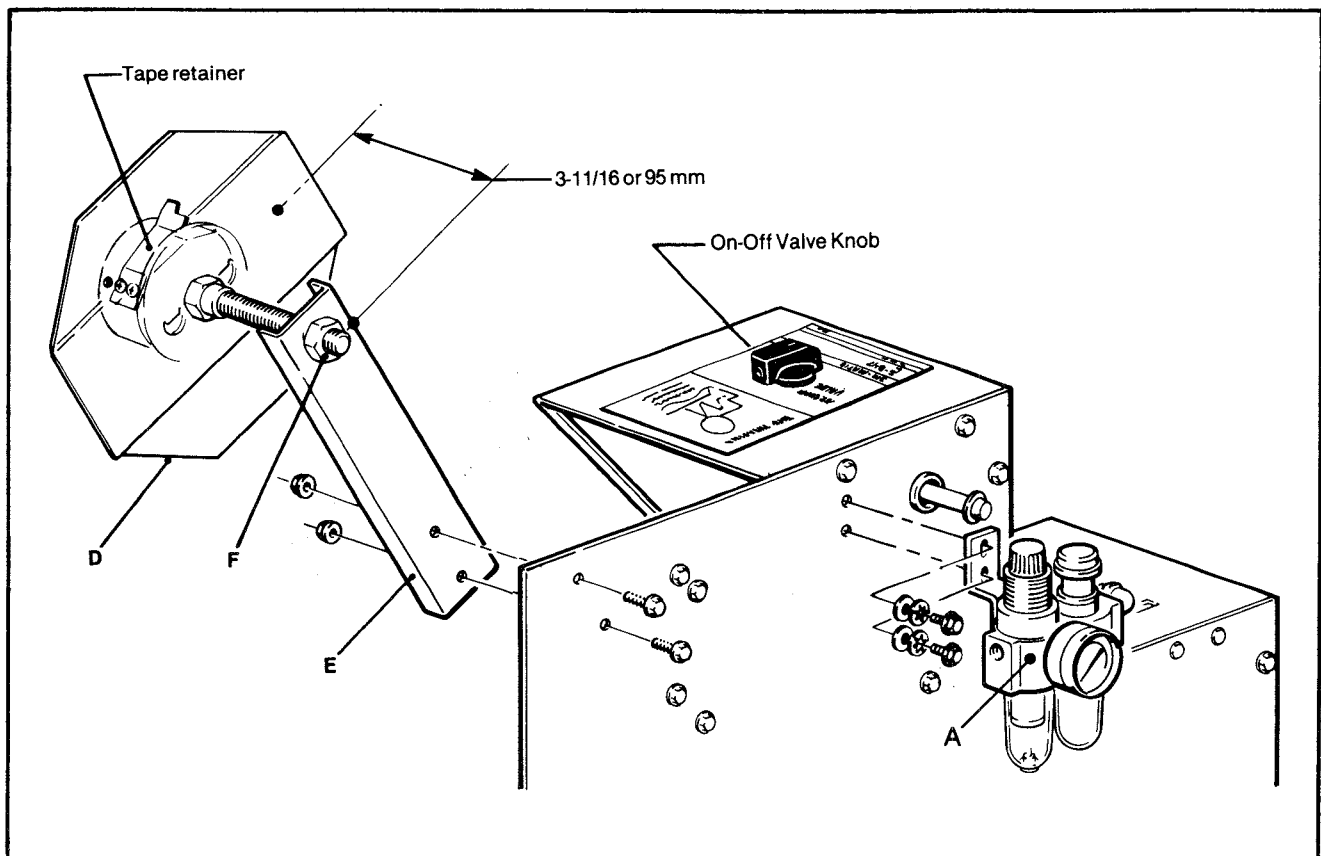

Figure 4A - Installation - Air Control - Left Side View
- A. Refer to Figure 4A and locate the air control unit (A) in a **vertical position** for proper operation. **Assemble and secure** the two 8-32 x 1/2 lg. screws, internal lock washers, and flat washers.
- D. Set the **on/off valve knob**, shown in Figure 4A, in "**off**" position and be sure the **main air supply is disconnected** before filling air lubricator with oil.
- A. Refer to Figure 4A and **assemble** the tape drum (D) to the bracket (E) to be positioned at the dimension 3 11/16 inches or 95 mm as shown. **Secure** the setting with the 1/2-13 jam nut (F).
Tape Width - The tape drum is assembled at the factory for 3/8 inch or 9 mm and 1/2 inch or 12 mm wide tapes. For 5/8 inch or 15 mm tapes the retainers must be moved to the secondary position on the tape drum. This is done by removing the two screws and relocating the retainer, shown in Figure 4A, then replacing and securing the screws.